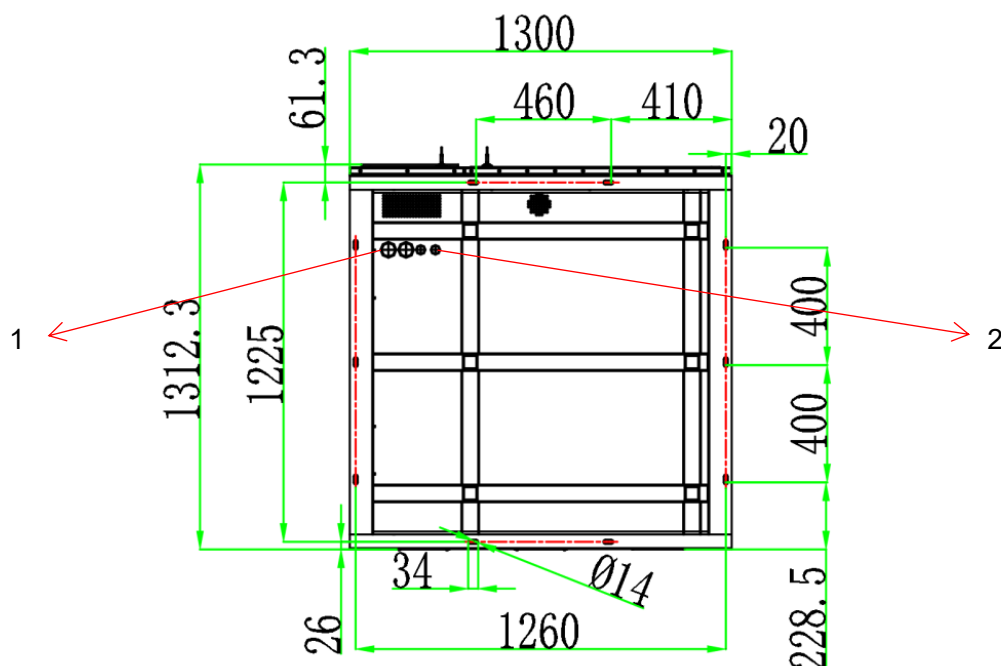

Figure 3-1 Mounting location diagram (in mm)
1. Make sure that the fixing holes on the mounting plane are the same as the bottom mounting holes of the cabinet, please refer to "Figure 3-1" for the location of the fixing holes.